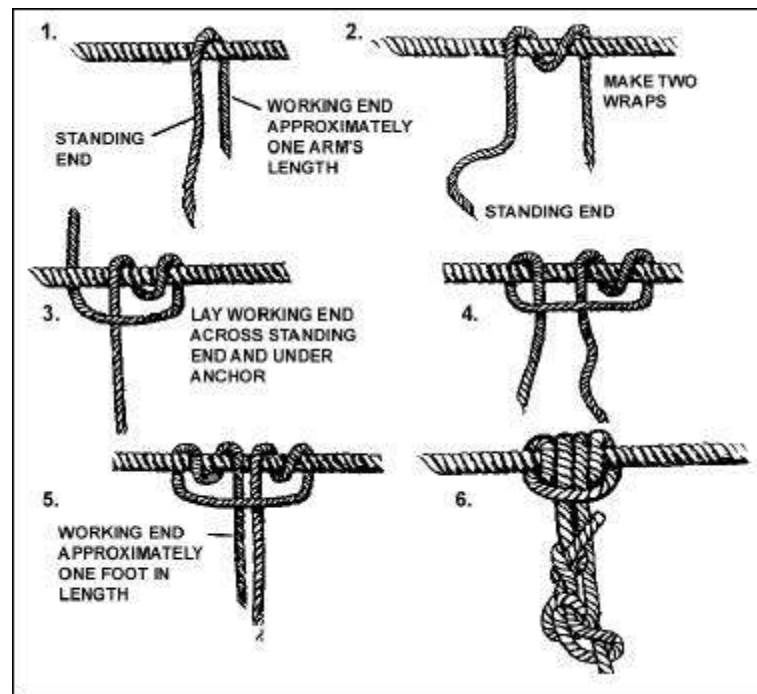

Figure 7-20. End-of-the-rope prusik knot.
(3) *Third method.* Another way of tying a prusik knot is the end-of-the-rope knot (Figure 7-20).